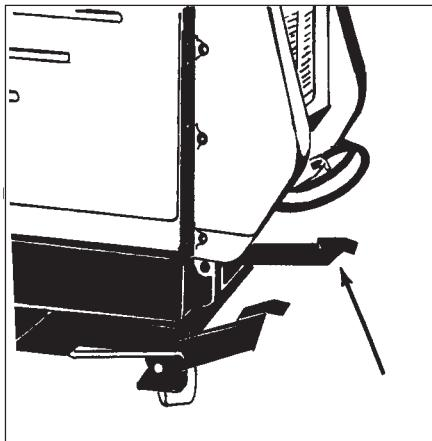

Figure1
1. Make sure the loading ramp is at least eight (8) feet long, and strong enough to support the machine.
4. Push down on head lift pedal to raise head to pad changing position. See figure 1.
6. Align the machine on a level surface five (5) feet in front of the ramp.
4. Poussez sur la pédale de relevage de la tête afin de relever la tête dans la position de changement du disque. Voir figure 1.